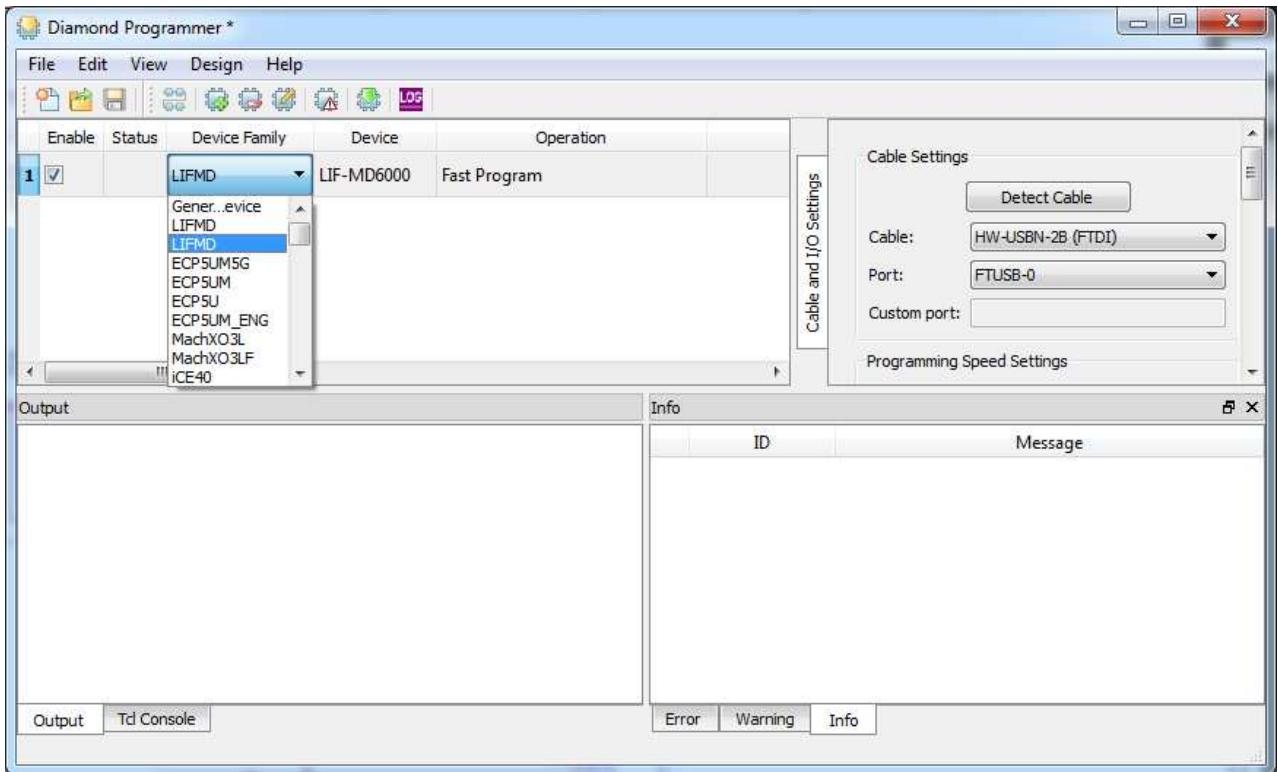

Figure 5.29. CrossLink Family – Device Family List
2. Manually select the device by choosing the following options as shown in Figure 5.29.